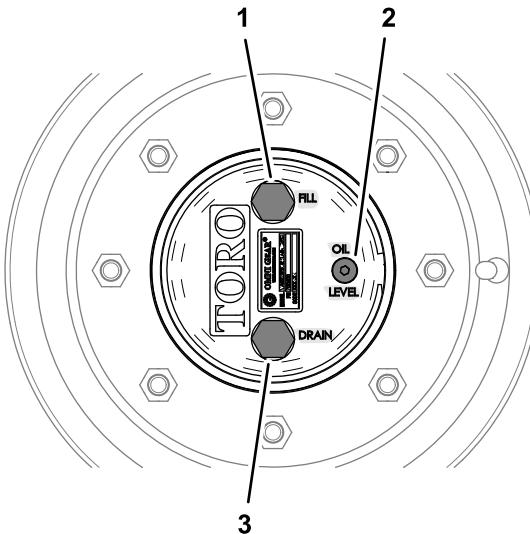

Figure 86
1. With the machine on a level surface, position a wheel so that the fill plug is at the highest (12 o'clock) position and the drain plug is at the lowest (6 o'clock) position (Figure 86).
1. With the machine on a level surface, position a wheel so that the fill plug is at the highest (12 o'clock) position and the drain plug is at the lowest (6 o'clock) position; refer to Figure 86 in **Checking the Planetary-Gear-Drive Lubricant** (page 66).